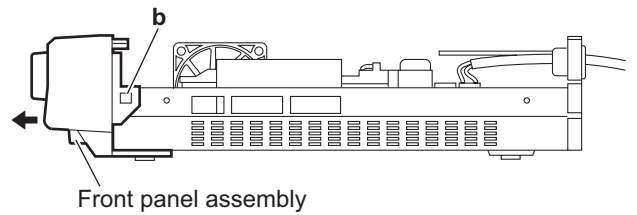

Fig.5
(5) From the both sides of the main body, release the joints **b** and take out the front panel assembly in the direction of the arrow. (See Fig.5)